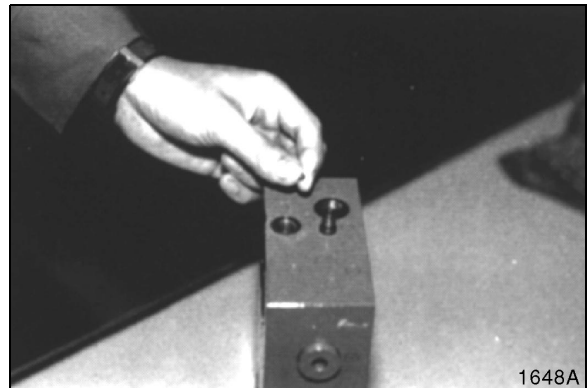

Figure 55
10. Remove steel ball using magnetized driver or rod. See Figure 55.